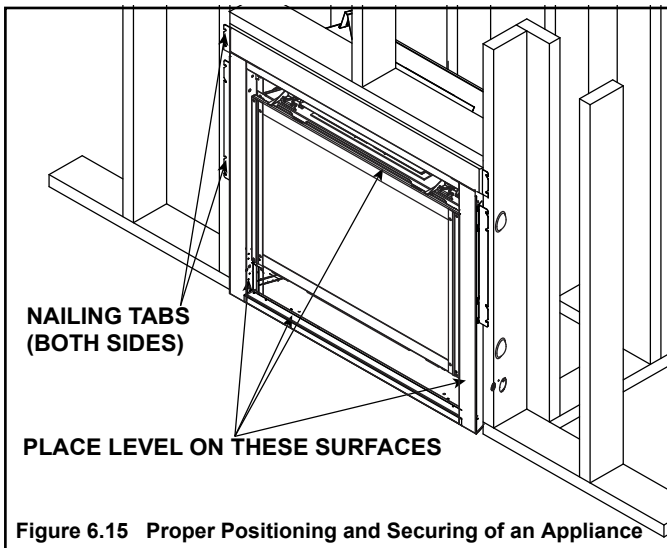

Figure 6.15 Proper Positioning and Securing of an Appliance
- Place a level on top, sides and bottom as shown in Figure 6.15.